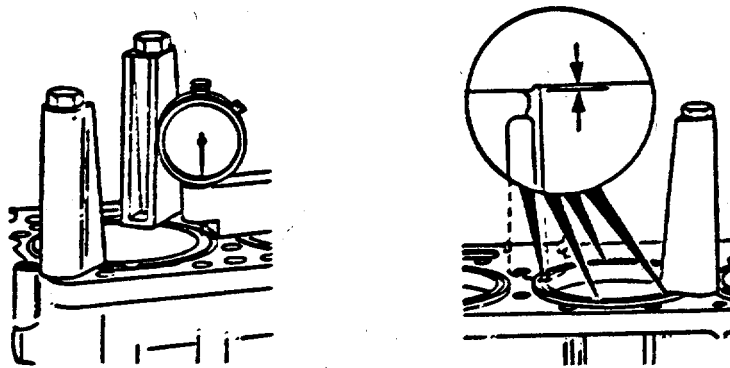

FIGURE 4-60. *Measuring Liner Protrusion.*
- 3 Use the gauge block to measure the liner protrusion at four points 90 degrees apart (FIGURE 4-60) . The protrusion must be from 0.003 inch to (0.08 mm) to 0.006 inch (0.15 mm).
The clamp set uses two cylinder head capscrews. The clamps must be installed 180 degrees from each other to apply equal amounts of pressure on the liner (FIGURE 4-60) .